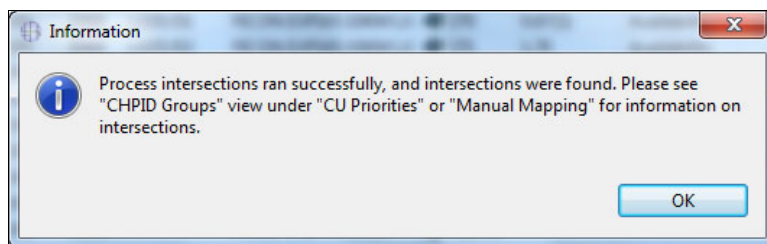

Figure 6-91 CMT - Process Intersections run successfully message
7. Click **OK** (Figure 6-91).